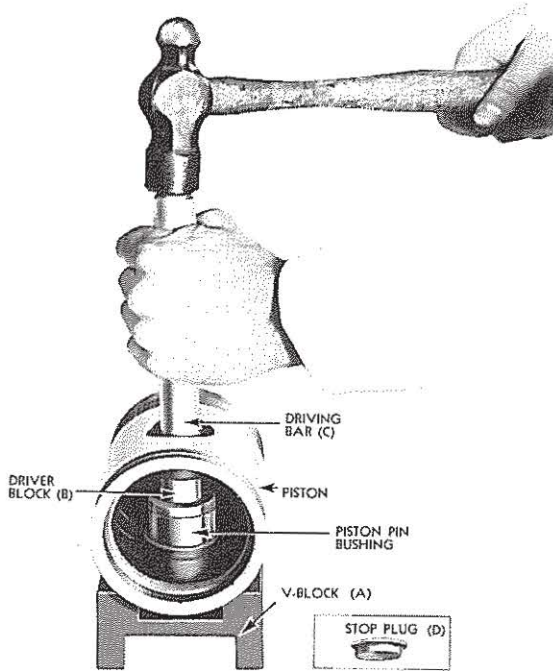

FIG. 10
1. Lay stop plug (D) on V-block (A) with large diameter down and small diameter inserted in piston pin hole.
2. Start bushing in lower piston pin boss from inside piston, with small diameter of driver block (B) inside bushing and shoulder of large diameter resting on end of bushing. Fig. 10.
1. Piston pin bushings are installed in the connecting rod with the same tool that was used for their removal. Fig. 10.